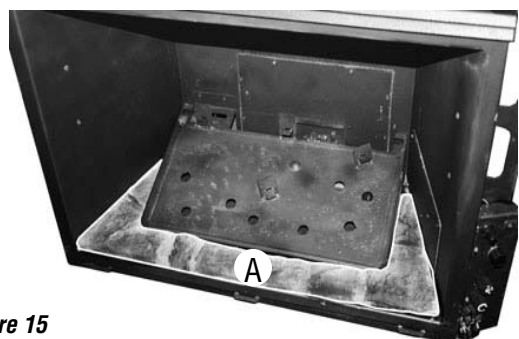

Figure 15
1. Start with the front bottom panel A. Set the front bottom panel in place with detail side facing up as shown. See **Figure 15**.